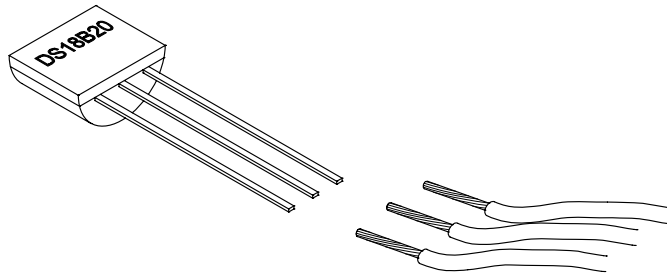

Fig. 3
- (b) The temperature sensor is a DS18B20 as shown in Fig. 3. This device sends temperature to the PIC in °C. Stranded wire has to be attached to each of the sensor pins.